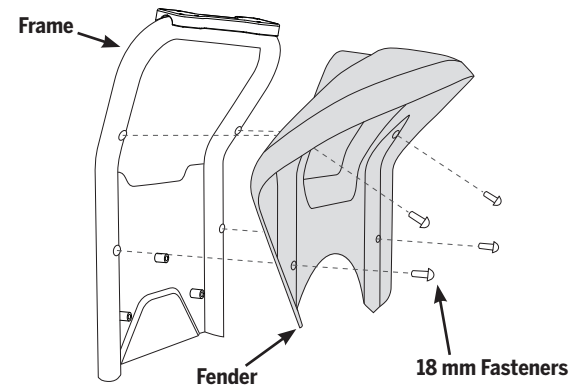

Figure 4. Install Fender to x2 SE Side Cargo Frame
4. To remove the Fender from the Fender Frame, remove the four 18 mm fasteners using a 4 mm hex wrench (see **Figure 4**).